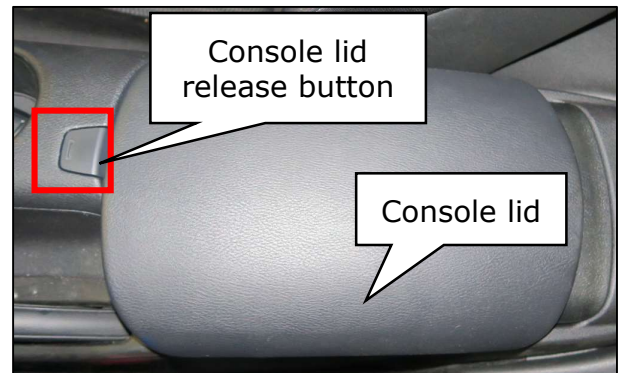

Figure 5
6. Open the center console lid by depressing the button on the top of the console assembly. (Figure 5)